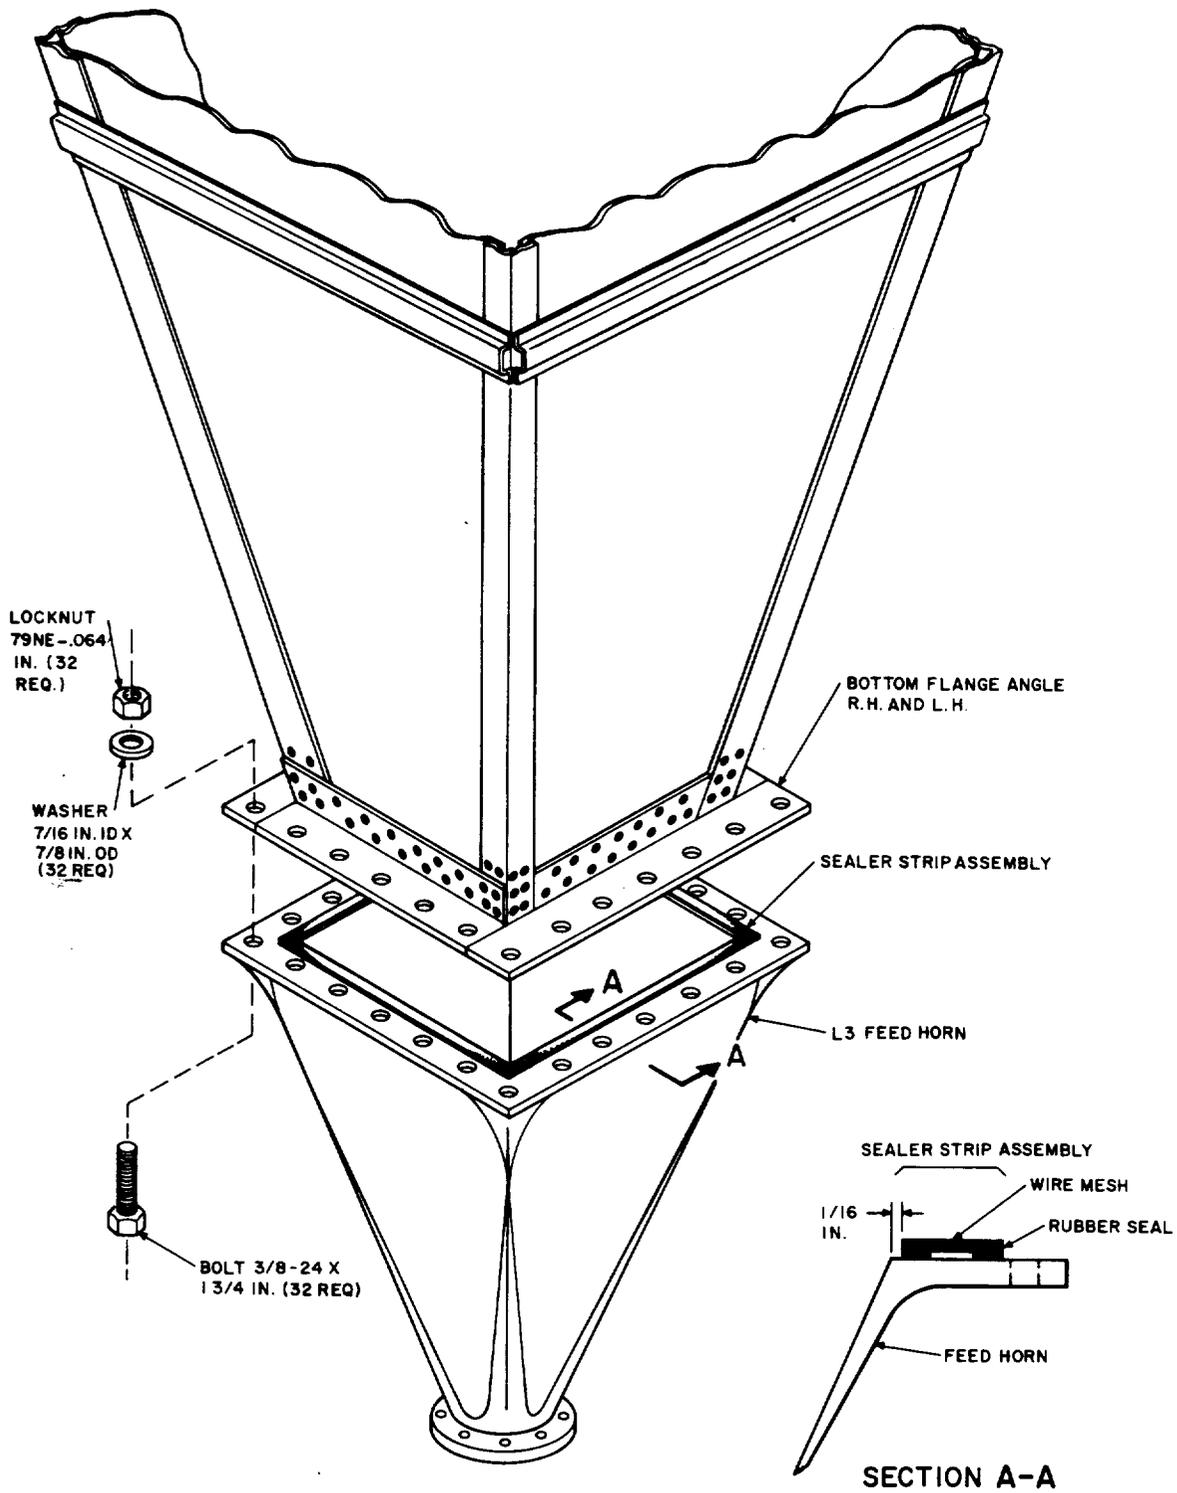

Fig. 2—KS-15676 Antenna and List 3 Feed Horn
**2.05** Place the sealer strip assembly on the feed-horn flange 1/16 inch from the inside edge of the opening. Apply the strips with the black rubber against the feed-horn flange, the wire mesh towards the inside edge, and the rubber towards the bolt holes. Miter the corners of each strip to obtain tight joints. Do not overlap the strips. (See Fig. 2.)
**2.06** Secure the feed horn to the antenna using the 3/8 by 1-3/4 inch bolts as shown in Fig. 2. Apply a coating of KS-19094 antiseize compound to the threads of all bolts and nuts before using. Tighten the bolts and nuts to a torque of 60 foot-pounds.